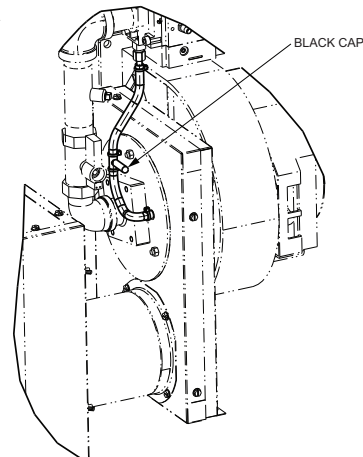

Fig. 45: Pressure Vent Switch Assemblies
5. Attach a 12" scale manometer between the Swirler and Gas valve on the air hose tee (see Fig. 45). Pull the black cap to connect the manometer.